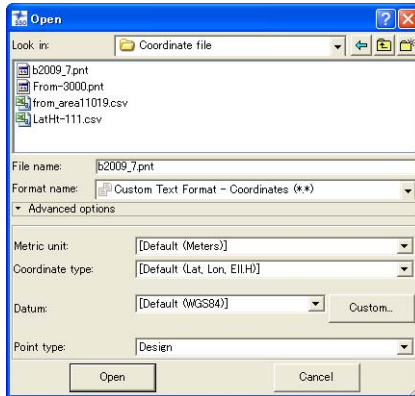

Figure 3-4. Import Coordinate Files
- Clicking the **Open** button on the **Import** window imports the file to the job. The data is displayed in the *Points* tab (Figure 3-4 on page 3-7).